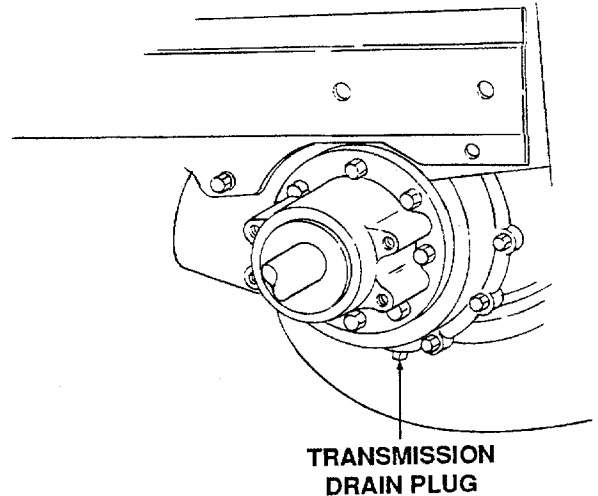

Figure 23
2. Clean the area around the transmission drain plug to prevent debris from entering the transmission case. Remove the drain plug and allow the transmission oil to drain into a clean container having a capacity of more than 7 quarts. Reinstall the drain plug (Refer to Figure 23).